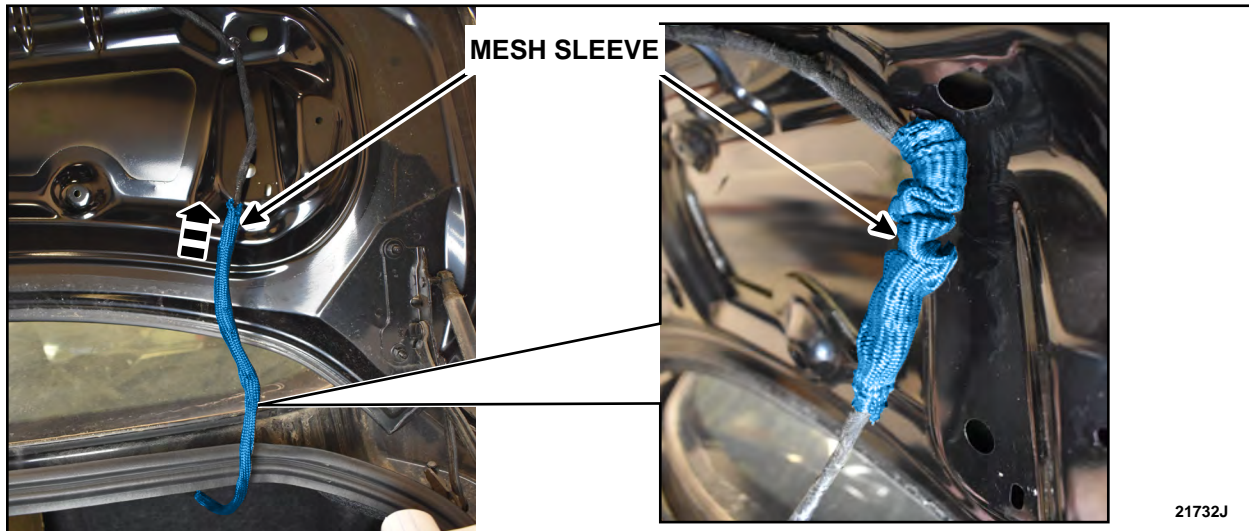

FIGURE 10
14. Position the mesh sleeve up out of the way. See Figure 10.